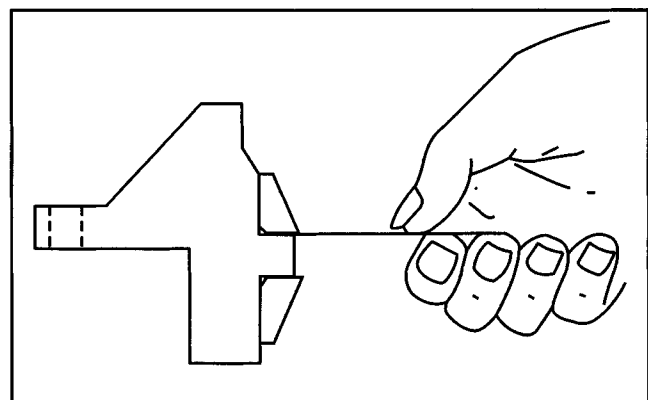

Figure 18
6. Use a feeler gauge or shim stock .0015 in. (.0381 mm) to ensure bearing cups are completely seated in bearing bores (See Figure 18). This is necessary for proper pinion position.